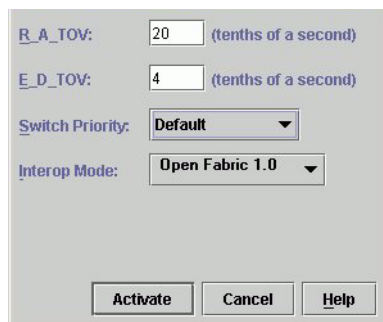

Figure 19: Configure Fabric Parameters dialog box
2. At the Hardware View, choose **Operating Parameters > Fabric Parameters** from the Element Manager window. The Configure Fabric Parameters dialog box displays (Figure 19).